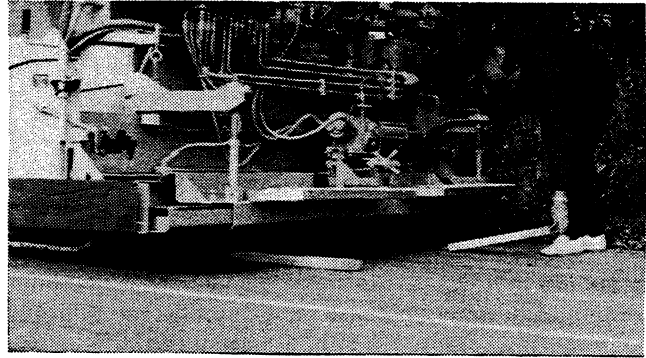

Figure 4-9 – Placing Starting Blocks
4. Place wood blocks under the screed as shown in Figure 4-9. These blocks should be slightly thicker ($\frac{1}{4}$ inch) than the finished (compacted) mat, to allow for reduction in thickness after rolling.